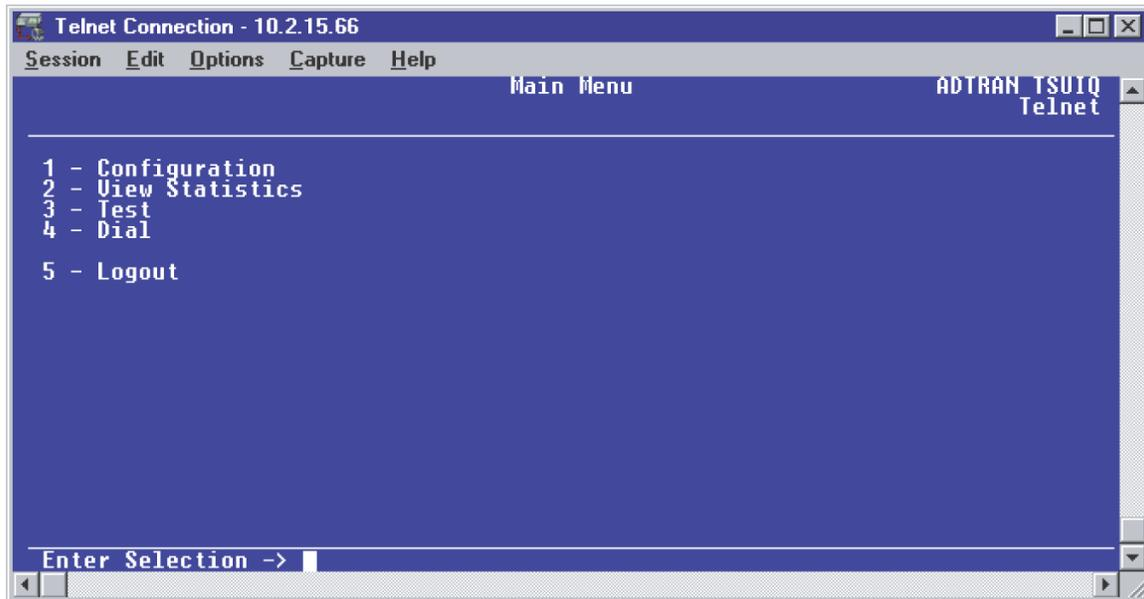

Figure 20. Main Menu
1. From the Main menu terminal screen (Figure 20) of the TSU IQ, select option 1 for **CONFIGURATION** and press **<ENTER>**. Next, select option 3 for **DIAL BACKUP** from the **CONFIGURATION** menu shown in Figure 21, and press **<ENTER>**. The resulting screen is displayed in Figure 22.
1. From the Main menu terminal screen (Figure 20) of the TSU IQ, select option 1 for **CONFIGURATION** and press **<ENTER>**. From the **CONFIGURATION** menu (Figure 21), select option 2 for **NETWORK PORT** and press **<ENTER>**. The **CONFIGURE NETWORK PORT MENU** is displayed.